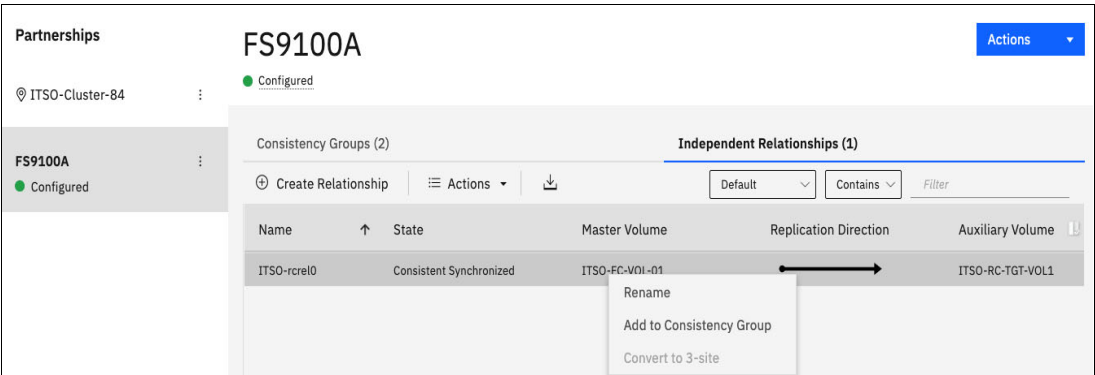

Figure 10-130 Moving relationships to a consistency group
2. Select the target system for the relationship to be moved, and go to the **Independent Relationships** tab. Right-click the relationship to be moved and select **Add to Consistency Group**, as shown in Figure 10-130.